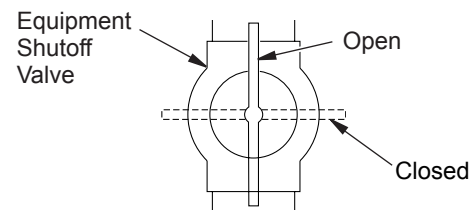

Figure 33 - Equipment Shutoff Valve
1. Close equipment shutoff valve (see Figure 33).
1. Open equipment shutoff valve (see Figure 33, page 17).